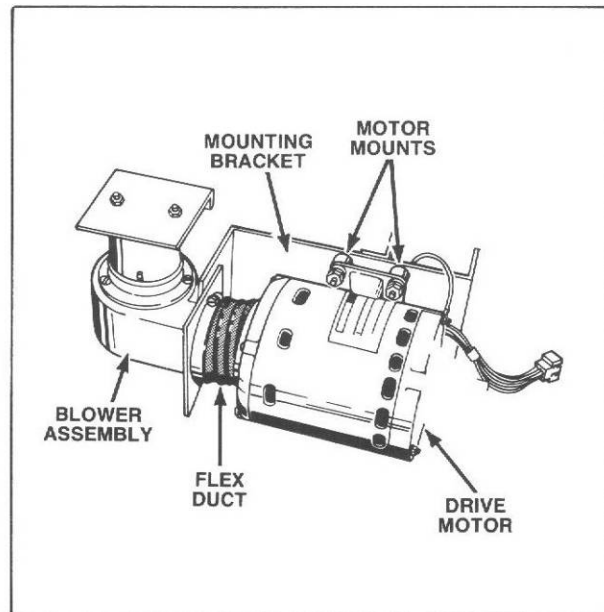

Figure 30
- e. Loosen clamp holding flex duct to motor, *Figure 30*.
- f. Remove nut holding ground wire to motor and four nuts, washers and lockwashers holding drive motor to rubber motor mounts, *Figure 30*.
### 32. BLOWER ASSEMBLY (Refer to *Figure 30*)